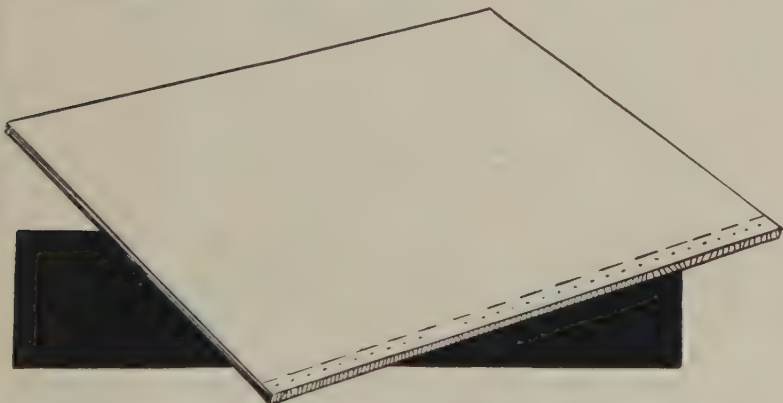

FIG. 272—STABBING SECTIONS—HOLES IN ALL SECTIONS MUST BE UNIFORMLY SPACED APART AND IN LINE
7. Set up your "stabbing" press, if one is available, to pierce holes about three quarters of an inch apart and $\frac{3}{16}$ " from glued edge of sections. Fig. 272.